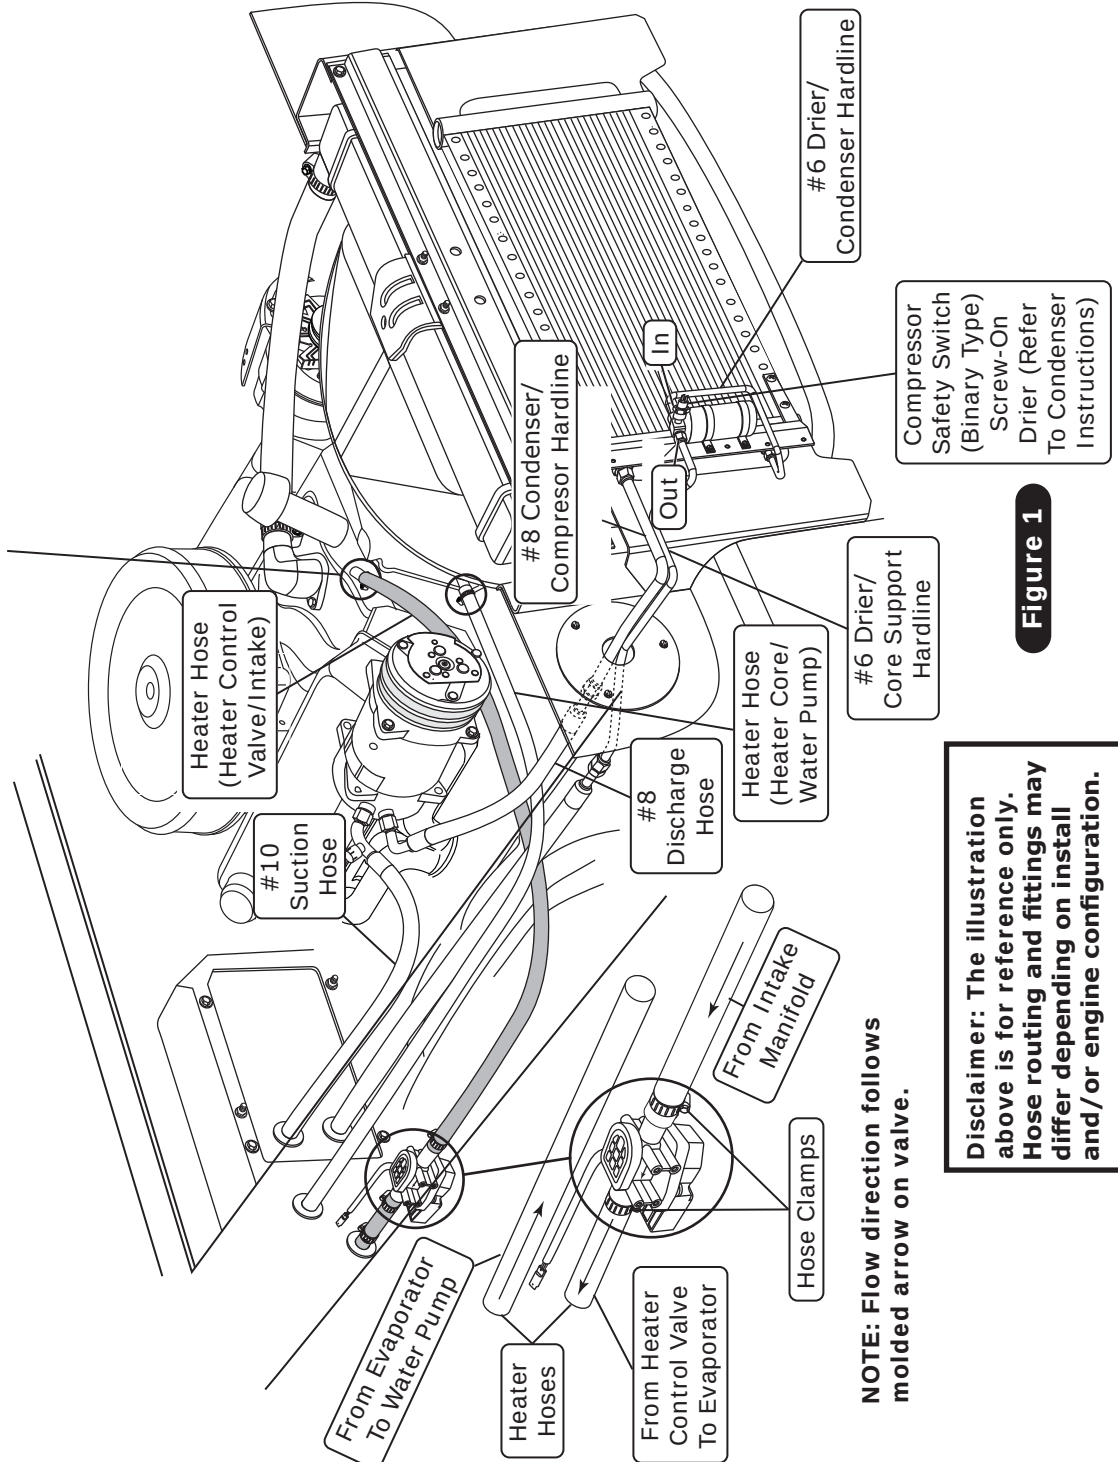

Figure 1
1. Route a piece of heater hose from the water pump to the top heater fitting of the heater core as shown in Figure 1, Page 14, and Figure 1, below. Secure the hose using hose clamps.
2. Route a piece of heater hose from the intake to the bottom heater fitting of the heater core as shown in Figure 1, Page 14, and Figure 1, below. Install the heater control valve in-line with the intake manifold (pressure side) heater hose. Secure the hose using hose clamps as shown in Figure 12, below. **NOTE: Flow direction follows molded arrow on valve.**